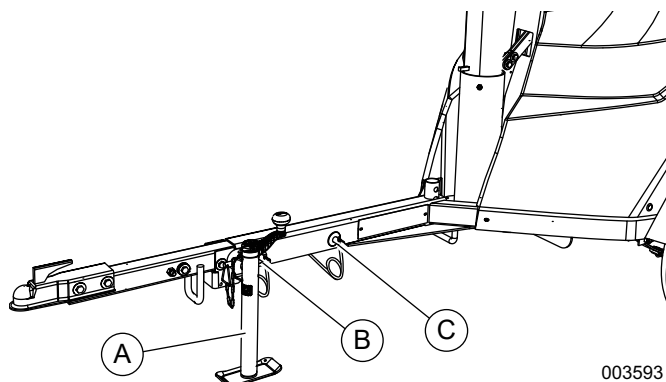

Figure 2-11. Extend Jack and Remove Pins
2. See **Figure 2-11**. Extend jack (A) enough to allow minimum effort to pivot trailer tongue into storage position.